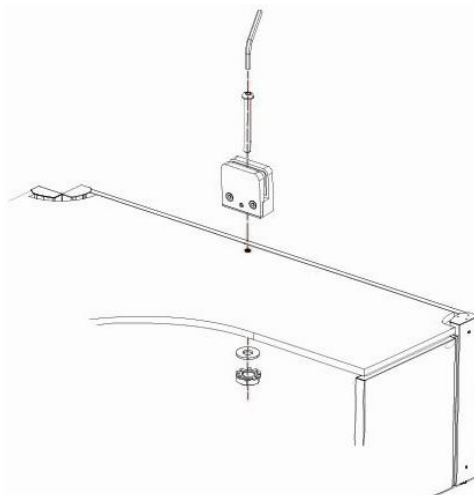

Figure 4: Attach Base Glass Clamp to Worksurface-Stretcher
3. As shown in **Figure 4**, position the Base Glass Clamp over the hole just drilled. Make sure the glass set screws on the Base Glass Clamp are facing inward from the edge of the worksurface, towards the seating area. Insert the 1/4 – 20 x 2.50" Long Allen Screw through the center of the Base Glass Clamp and then through the worksurface-stretcher hole. Using the 5/32" Alan Wrench Key, secure the Base Glass Clamp to the worksurface-stretcher with the washer and kepnut supplied in the installation kit.